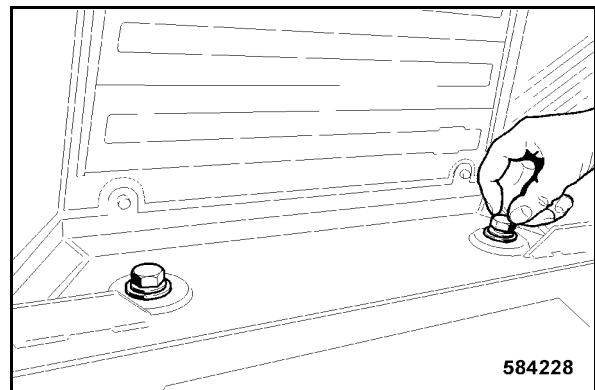

Fig. 210
- Loosen both fastening screws (Fig. 210) at the rear of the cabin again.
- Tighten both fastening screws (Fig. 210) at the rear of the cabin with 578 Nm.